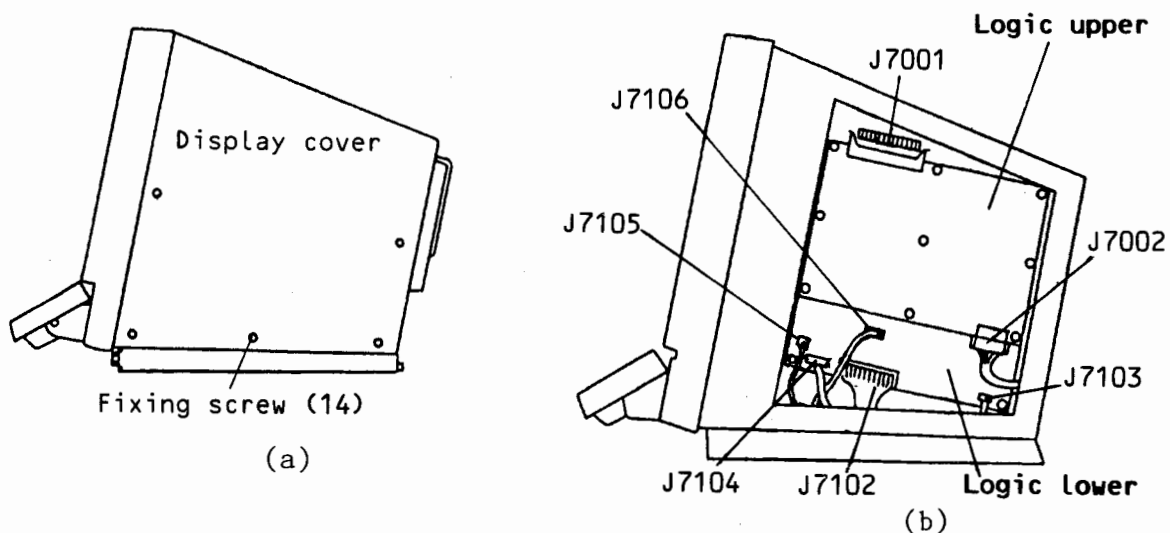

Fig. 5.2.2 Dismounting Logic Upper/Lower
- (1) Referring to Fig. 5.2.2 (a), remove 14 fixing screws, and open the display cover.
- (2) Referring to Fig. 5.2.2 (b), disconnect J7001 of the logic upper. When optional gyro/log interface is used, also disconnect J7002.
- (3) Remove nine fixing screws of the logic upper and take out the board.